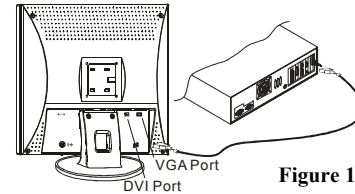

Figure 1-5
2. Connect one end of either the VGA or DVI cable from the PC to the LCD Monitor's matching VGA or DVI port (see fig 1-5)